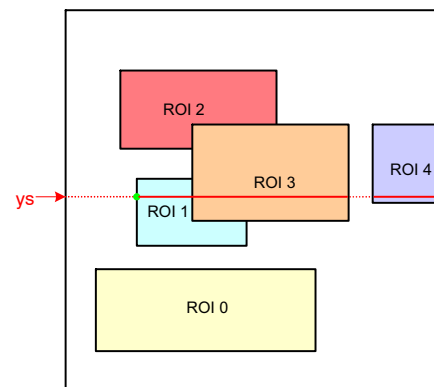

Figure 27. Scanning the Image Array with Five Windows
Figure 27 illustrates a practical example of a configuration with five windows. The current position of the
- The read pointer is not necessarily incremented by one, but depending on the configuration, it can jump in y-direction. In Figure 27, this is the case when reaching the end of ROI0 where the read pointer jumps to the y-start position of ROI1.